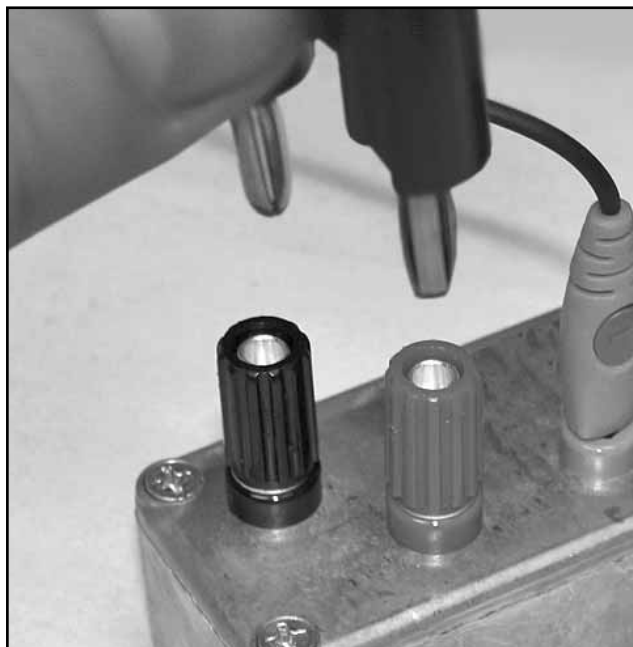

FIGURE 5.34
7. Make certain the Audio Signal Generator is set up per 5.19, part B, steps 1, a) through 1, g). Connect the Audio Signal Generator Test Leads from the Generator SYNC Ports to the Attenuator (make certain test leads are connected red to red and black to black). See Figure 5.34.